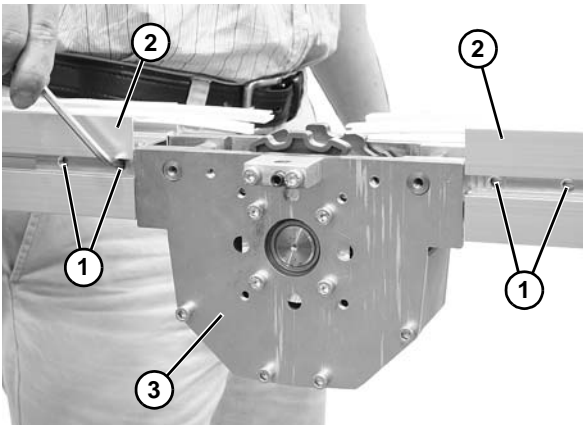

Figure 142
- Loosen set screws (**Figure 142, item 1**) on both sides of conveyor.
- Separate conveyor halves (**Figure 142, item 2**) and remove drive assembly (**Figure 142, item 3**).